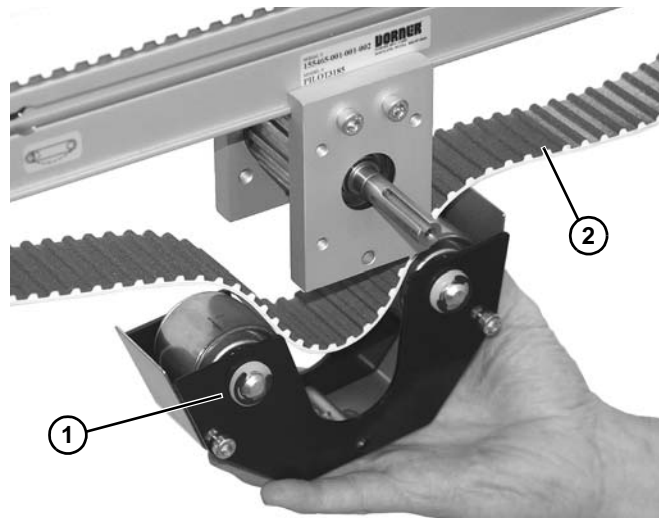

Figure 53
3. Lower and remove mid drive assembly (**Figure 53, item 1**) from belt (**Figure 53, item 2**).